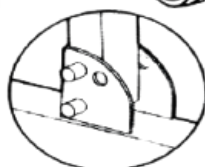

fig.3
7. The angle of wheel support can be adjusted by the removal of the pin (fig. 1.8) to accommodate different wheel configurations (fig.3).